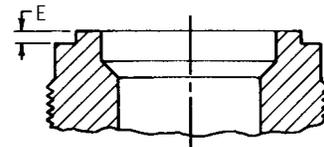

FIGURE 17
- b. **The Thermo Disc™ can not be machined.** If, after lapping, Dimension M, in Figure 17 (right), does not meet the minimum specified in Table IV (right), the disc should be replaced.